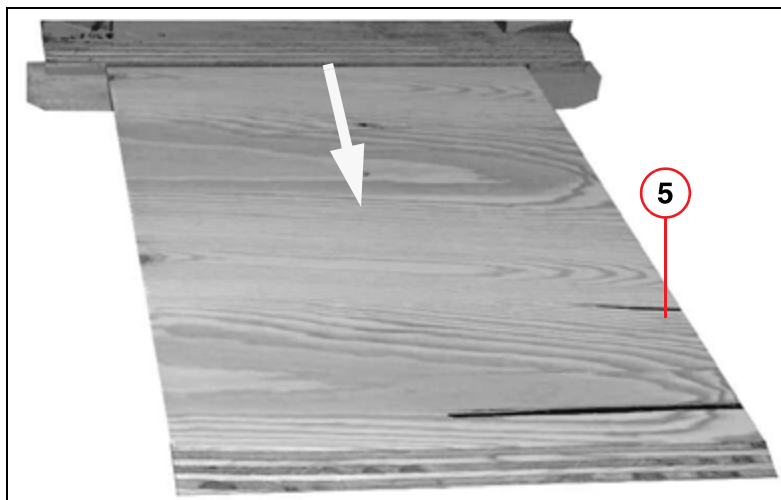

Fig. 4: Ramp 2
- Slide the ramp (5/Fig. 4 / p. 11) out of the transport pallet from the back to the front and position it appropriately.